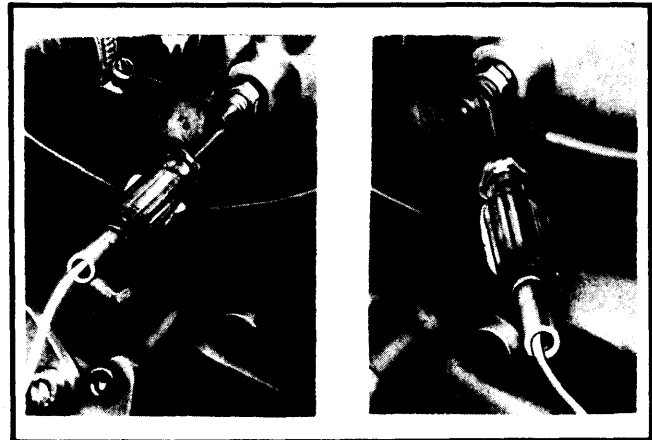

Fig. 22 Checking Glow Plug Condition (Left) and Current Supply to Glow Plugs (Right)
1) To check glow plug condition, remove glow plug wire and bus bar connector. Connect test lamp between glow plugs (one at a time) and battery positive terminal. See Fig. 22. Test lamp will light if plugs are good. If not, replace glow plugs.
2) To check current supply to glow plug, reinstall wires and bus bar connector. Connect test lamp between glow plug to No. 4 cylinder and ground. See Fig. 22. Turn ignition switch to glow plug position and lamp should light. If not, check wiring or check for a defective glow plug fuse (80 amp.) located to the left of steering column behind instrument panel.